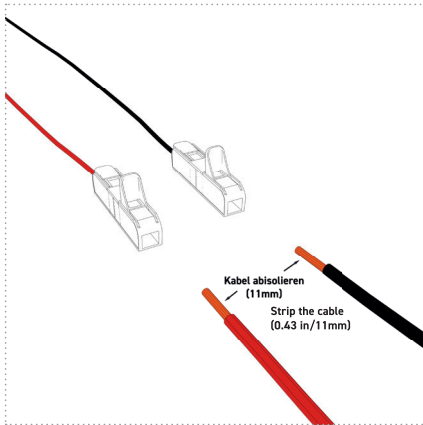

Figure 20
2. Strip the onboard connection cables by 11 mm (Figure 20).
3. Using Tables 17 and 18, connect the 2 cables (power supply and signal) of the UV unit to the power supply and pump using the splicing connectors provided in the scope of delivery (Figures 20 and 21).